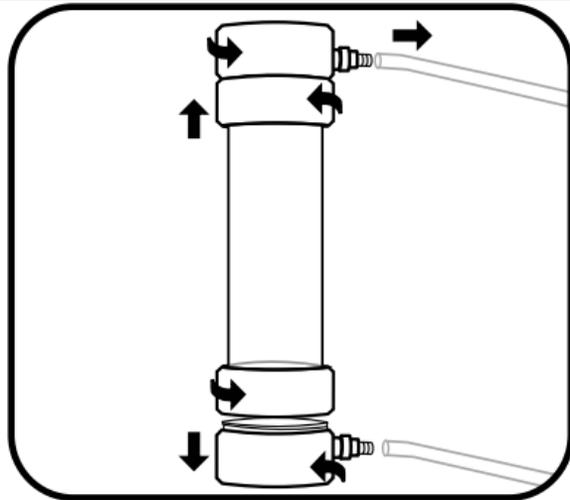

Figure 45. Disassemble Flow Cell
Disassemble the flow cell using Figure 45 for guidance.
**STEP 7** | Reassemble the flow cell using the reverse order from Figure 45. Make sure that the O-rings and stainless steel retaining rings are properly seated on the flow cell tube. Push the base of the flow cell onto the flow cell tube until it is firmly seated. This creates the watertight seal. Screw the locking ring on to the base by turning it clockwise; **do not use a tool and do not overtighten.**